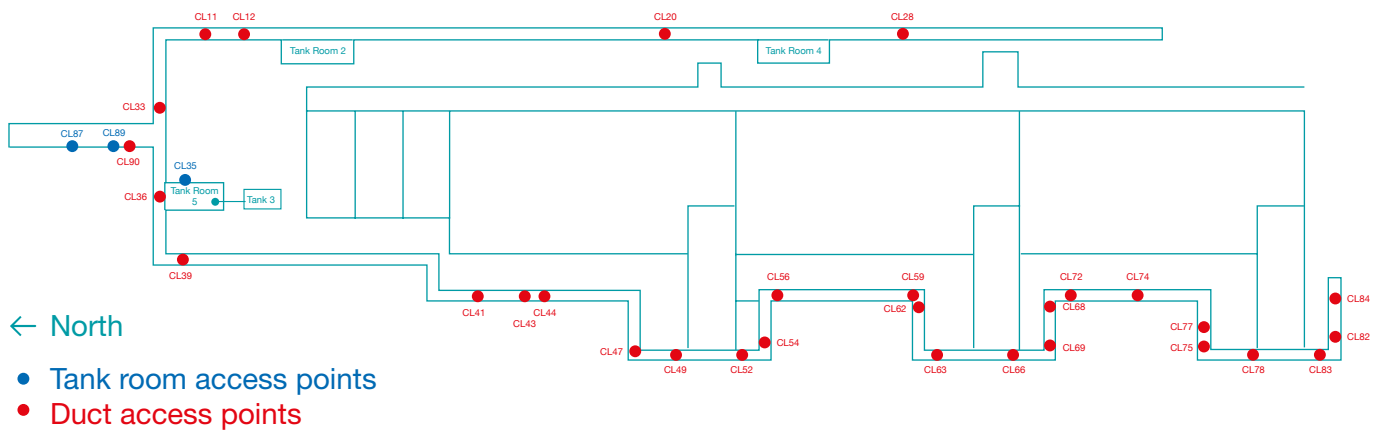

Figure 4: Schematic of duct system at 5.5m level
- The duct systems are vast (L x W x H: ~270m x 3m x 3m) (see Figure 4). The typical distance between access ports ranges between 4 - 6m and there is not always a clear line of sight between each access port;